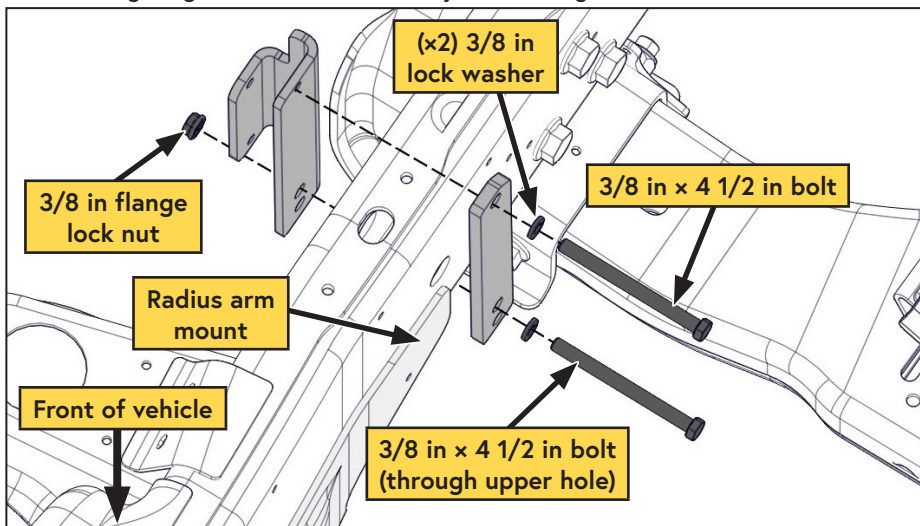

Figure 46 — Installing the AOST
- Using the (x2) 3/8 in x 4 1/2 in bolts, install the front tank mount and backing strap (the lower fastener is installed between the radius arm and the frame). Leave the bolts finger tight to allow for minor adjustments (figure 46).